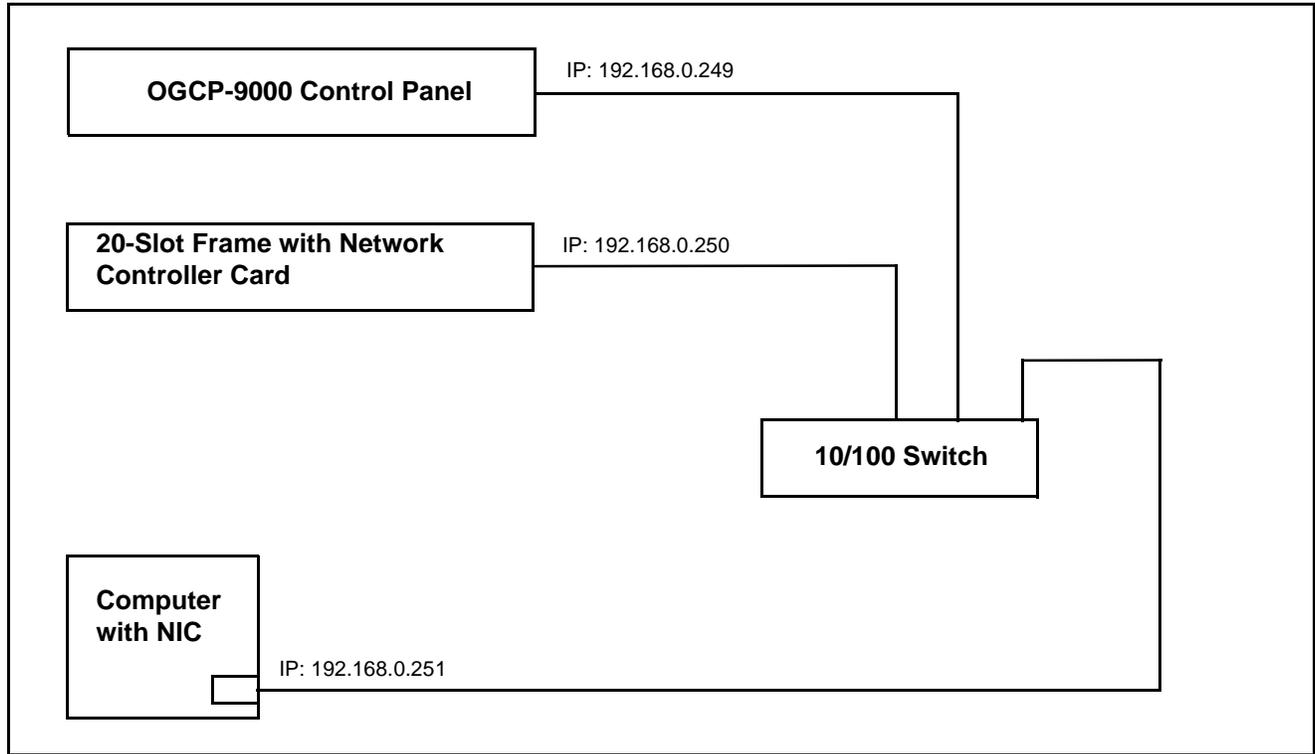

Figure 2-2 Example Control Panel LAN Interconnections
1. Using a CAT5 RJ-45 jumper cable (not supplied), connect the **ETHERNET 10/100** connector to the Ethernet switch that links the Control Panel to the LAN. Figure 2-2 shows an example LAN interconnection used with the Control Panel and a frame equipped with a required optional Network Controller Card (Cobalt PN HPF-FC or equivalent).